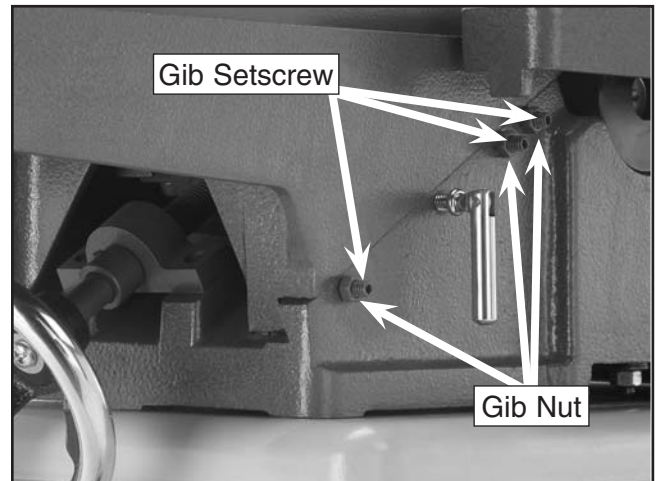

Figure 53. Outfeed table gib controls.
1. Using a 12mm wrench, loosen the two outfeed table gib nuts on the side of the jointer base (**Figure 53**).